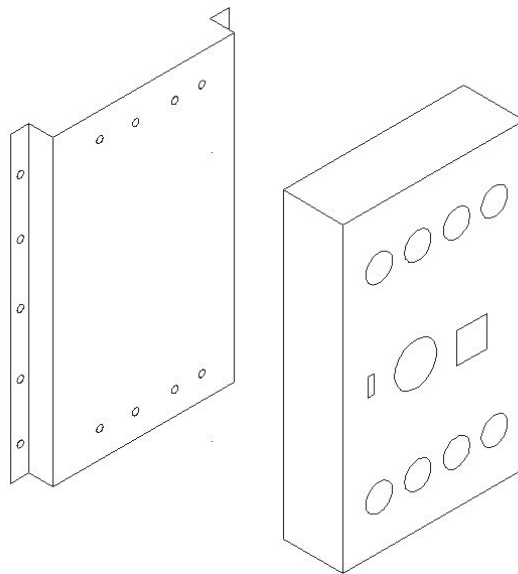

Fig. 2.11
1)Install the control box onto to wall panel near the generator shown in Fig.2.11,and install the installation panel onto the wall with nail,then install the control box on to the panel.